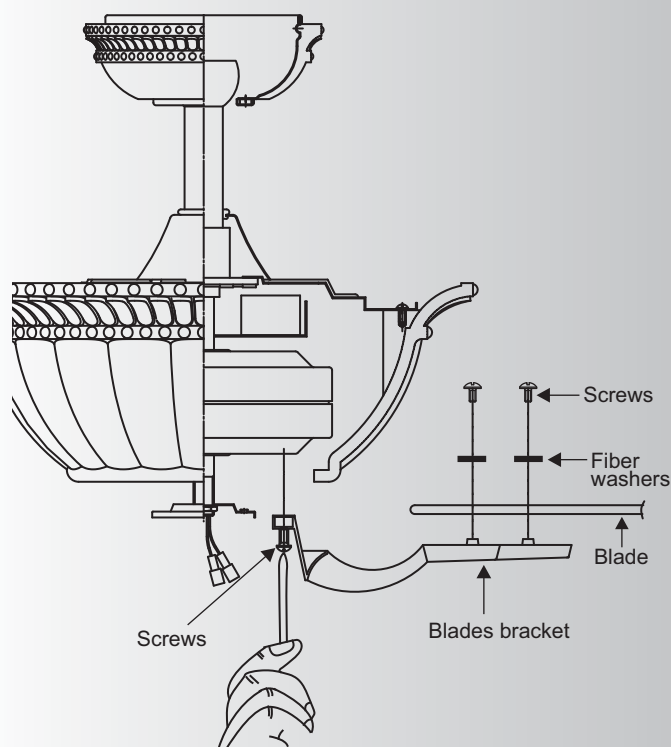

Fig. 16
Step 1. Attach a blade to a blade bracket using the screws and fiber washers provided. (Fig.16)
Step 2. Attach each blade assembly to the motor using the "Pre-Installed" mounting screws in the blade bracket. (Fig 16)